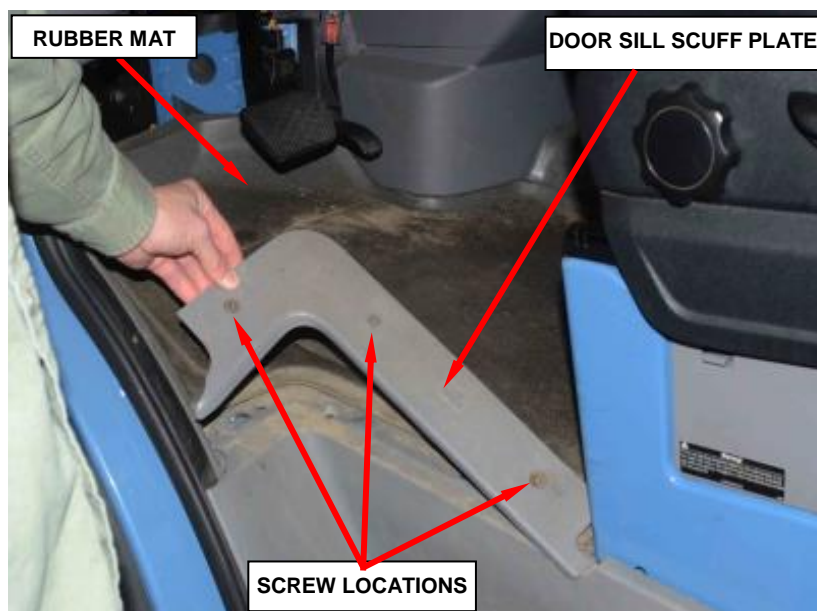

Figure 143 – Door Sill Scuff Plate
- a. Remove and save the three screws from the door sill scuff plate and remove the door sill scuff plate (Figure 143).
- b. Remove the rubber mat (Figure 143).